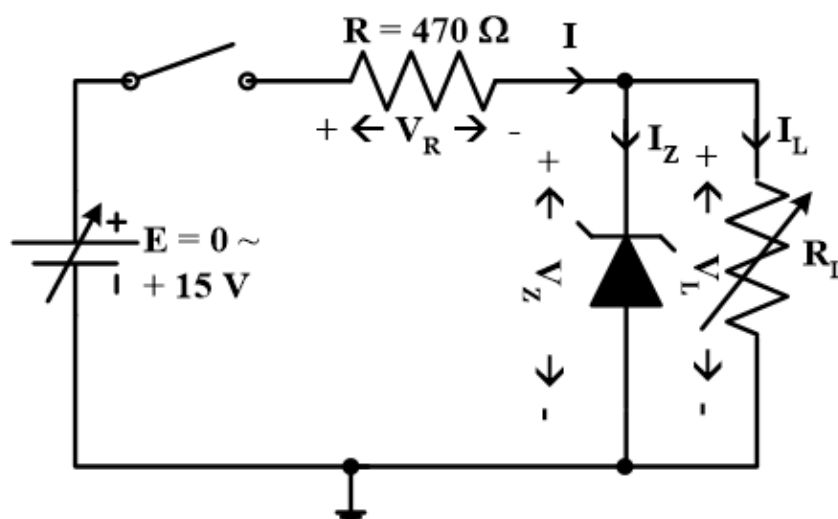

Figure 6: Circuit diagram for the determination of Zener diode's voltage regulation characteristics
2. Connect the circuit as shown in Fig. 6.